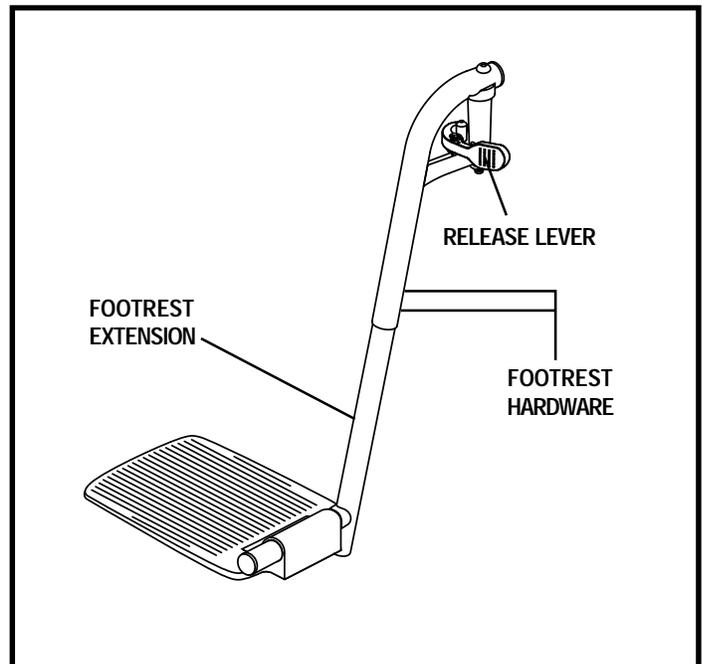

Figure 17. Swing-Away Footrests
1. Push in the release lever. See figure 17.
1. Remove the hardware from the side of each footrest extension. See figure 17.